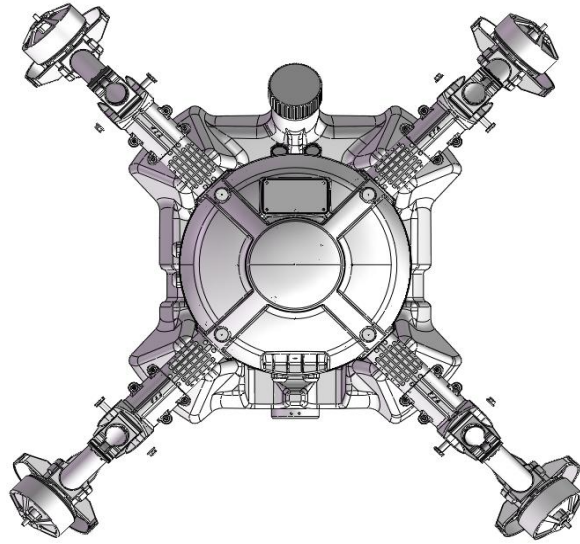

Figure 2-3
- 7) The other three arm should be installed as this method,see figure 2-3.